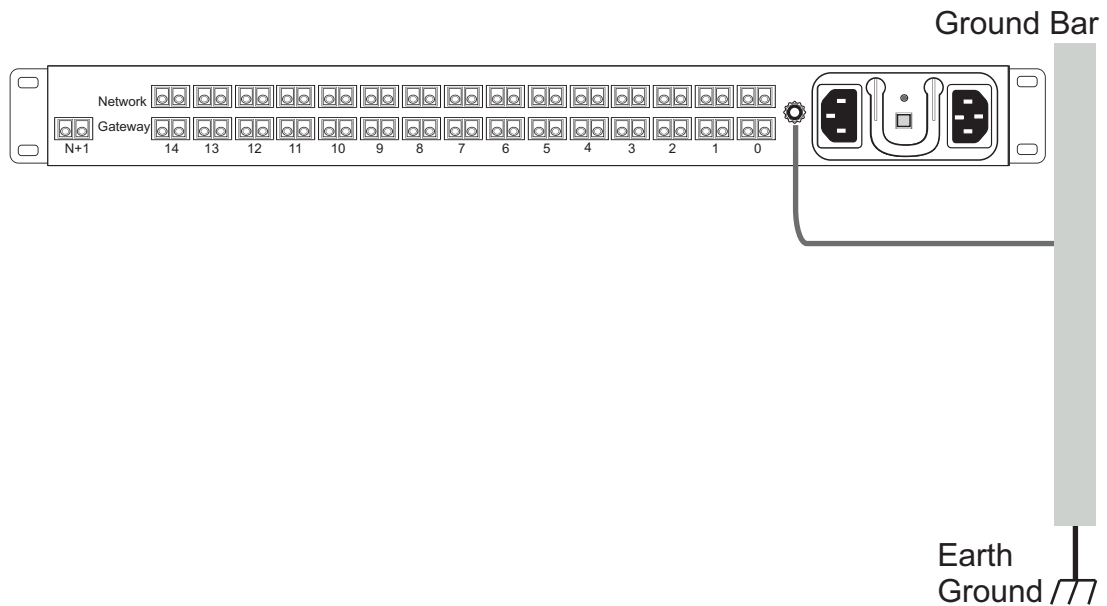

Figure 6.3 Chassis Ground Connection
1. Connect one end of a ground wire to the ground lug of the 7800 N+1 Patch Panel. See figure 6.3 on page 47.